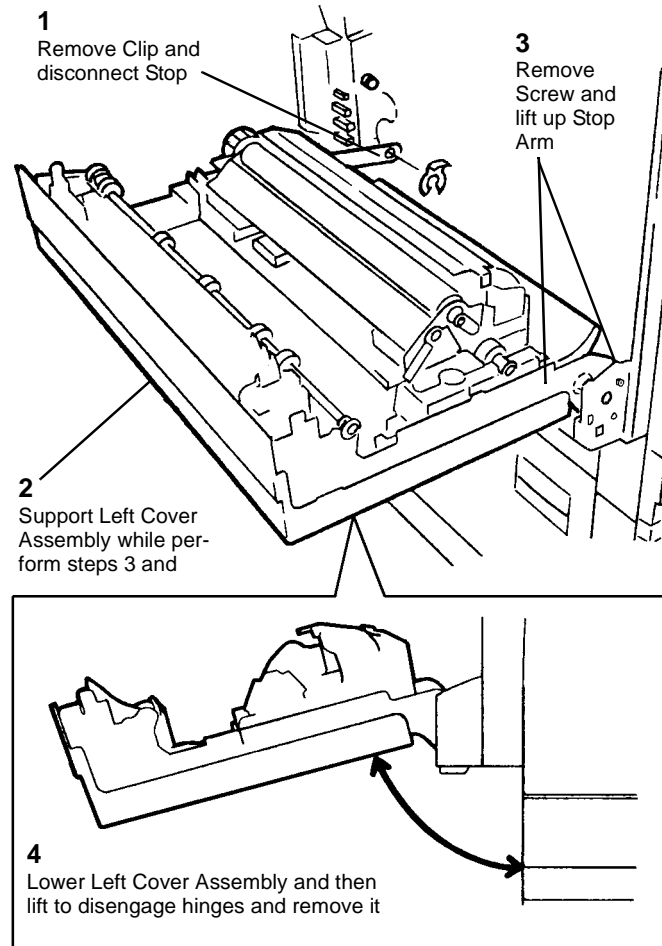

Figure 2 Removing Left Cover Assembly
8. Remove Left Cover Assembly (Figure 2).